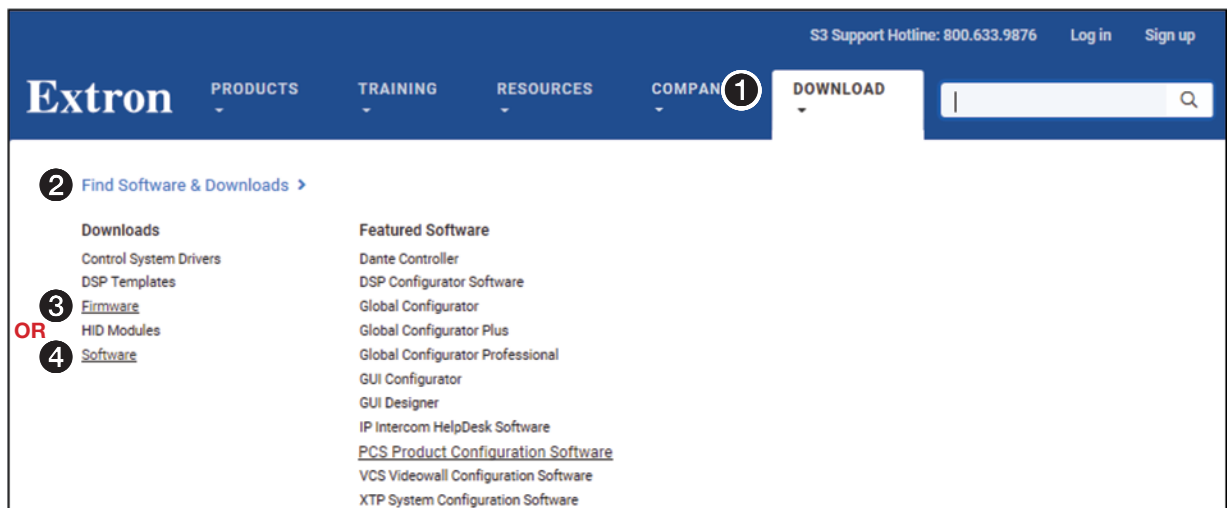

Figure 61. Selecting the Download Tab
1. Go to www.extron.com and hover the cursor over the **Download** tab (see figure 61, ❶). The **Find Software & Downloads** links appear (❷).